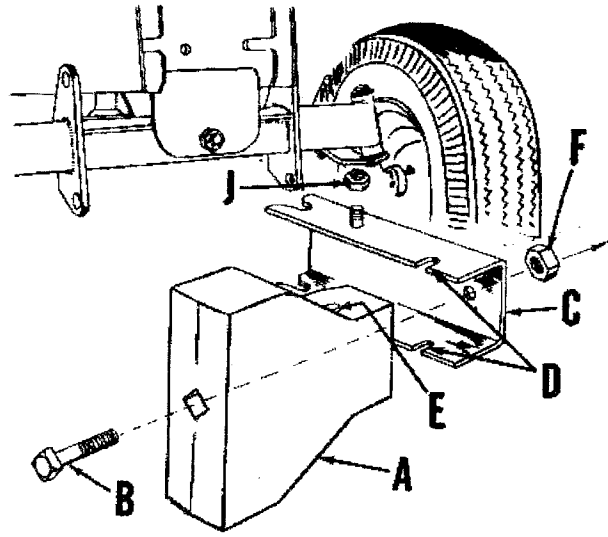

FIG. 2
2. Turn weight (A), over on its side to position shown in Fig. 2.
3. Refer to Fig. 2. Place weight channel (C), over weight (A), so that slots (D), in weight channel (C), slide over lugs (E), on weight (A).
4. Secure weight channel (C), to weight (A), with hex nut (F).
5. Lift front channel cover (G), and slide weight channel (C), into slots (H), of tractor frame. NOTE: Weight (A), on weight channel must be downward. It may be necessary to loosen the two hex nuts (J, Fig. 2). One nut on each side of channel.
6. Tighten the two hex nuts (J, Fig. 2), securely.